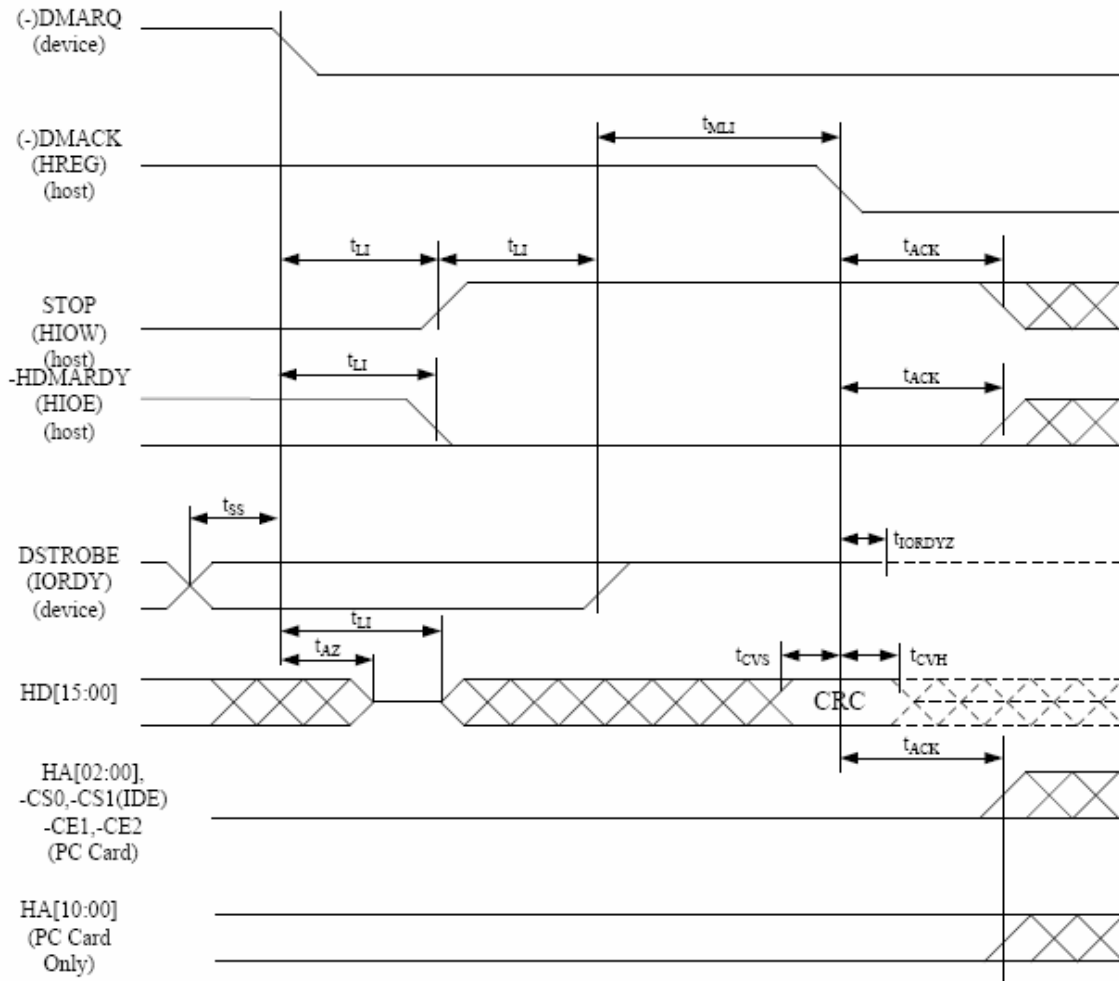
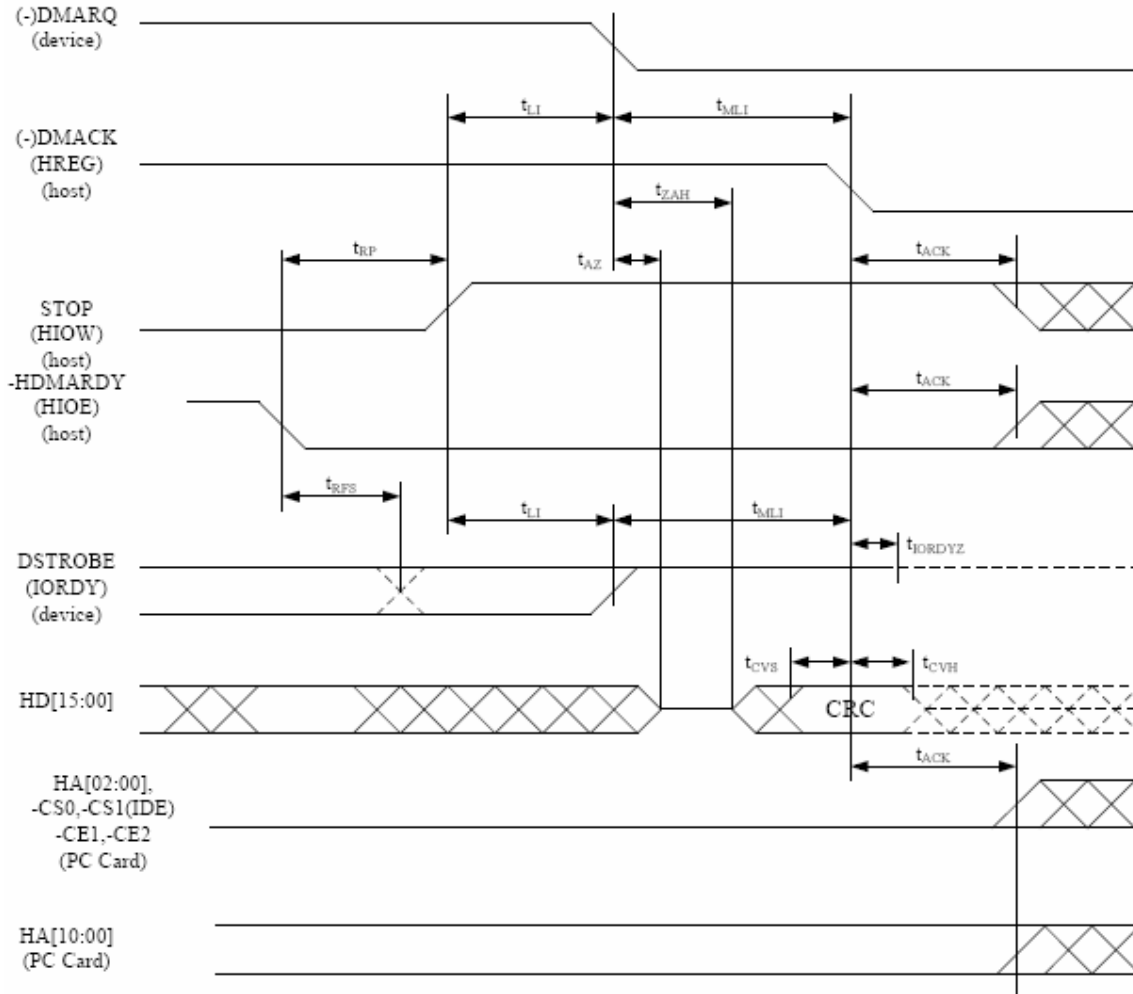

Figure 16: Ultra DMA Data-In Burst Device Termination Timing Diagram
Figure 17: Ultra DMA Data-In Burst Host Termination Timing Diagram
- (1) The parameters tUI, tMLI (in Figure 16: Ultra DMA Data-In Burst Device Termination Timing and Figure 17: Ultra DMA Data-In Burst Host Termination Timing), and tLI indicate sender-to-recipient or recipient-to-sender interlocks, i.e., one agent (either sender or recipient) is waiting for the other agent to respond with a signal before proceeding. tUI is an unlimited interlock that has no maximum time value. tMLI is a limited time-out that has a defined minimum. tLI is a limited time-out that has a defined maximum.
- (2) 80-conductor cabling shall be required in order to meet setup (tDS, tCS) and hold (tDH, tCH) times in modes greater than 2.
- (3) Timing for tDVS, tDVH, tCVS and tCVH shall be met for lumped capacitive loads of 15 and 40 pF at the connector where the Data and STROBE signals have the same capacitive load value. Due to reflections on the cable, these timing measurements are not valid in a normally functioning system.
- (4) For all timing modes the parameter tZIORDY may be greater than tENV due to the fact that the host has a pull-up on IORDY- giving it a known state when released.
- (5) The parameters tDS, and tDH for mode 5 are defined for a recipient at the end of the cable only in a configuration with a single device located at the end of the cable. This could result in the minimum values for tDS and tDH for mode 5 at the middle connector being 3.0 and 3.9 ns respectively.